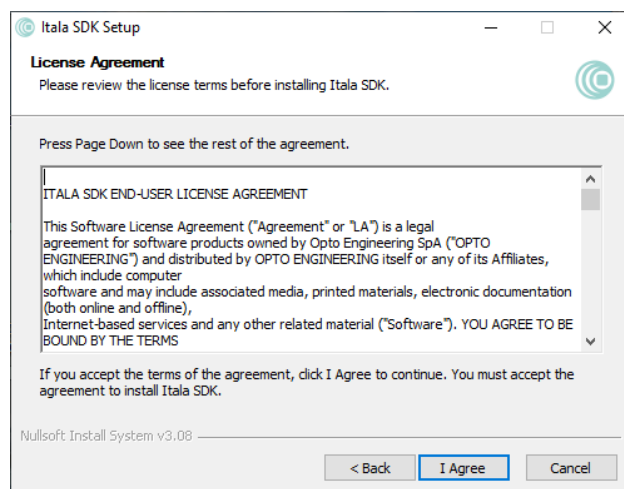

Figure 14: Itala SDK licence agreement window.
3. Check the licence terms before installing Itala SDK (Fig.14).